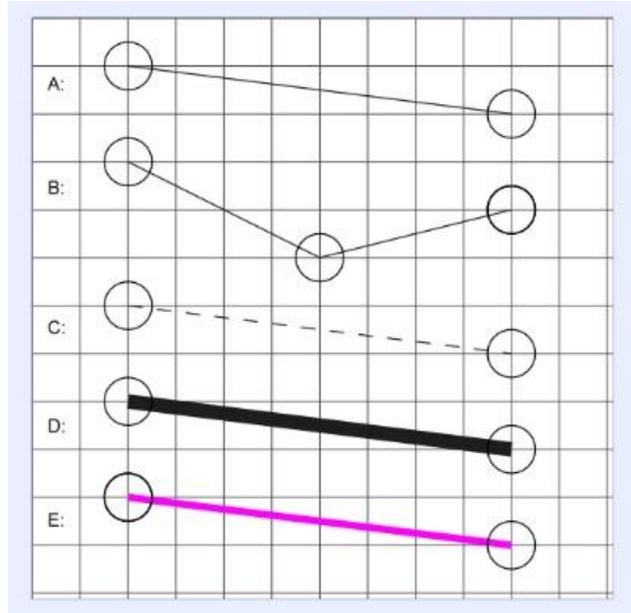

Figure 9 - Lines Drawn in AnyRail
When you add a line, circle or rectangle to the Work Area you will also notice that the line has a circle at each end (or intermediate point) [see *Figure 9*], and the circle or rectangle has a circle at their vertices. In the case of a circle, an imaginary box is drawn around it and it is this imaginary box that has the vertices. These vertices are known as “Control Points” and are used to adjust the position of that point on the object. This is useful for drawn lines in the instance where you need to align a line to the edge of a rectangle (for example). In the case of circles and rectangles, selecting one of their control points will result in a misshapen object. Should one of the vertices be accidentally selected and moved, <CTRL-Z> will undo the last task. Changing the size of the Control Point can make them easier to select.
Adding a user-defined line in *AnyRail* is very easy. The following section describes how to create a line, change the line to a dashed line, change line thickness or color. The various line styles are shown in Figure 9. As can be seen in this Figure, each line has a pair of Control Points – one at the starting point and one at the endpoint. In the case of the Multi-point line (B), there are three Control Points (in this example).
“General”, “Lines”, and “Objects”. The line width can be changed by replacing the value of “1” with another value under the “Lines” function. In Figure 9-D, the value was changed to “10”.
- E) **CHANGE LINE COLOR:** The default line color is **black**. To change the line color, <left-click> on the line to be changed and the “**TOOLS: LINES**” Tab will open. <left-click> on the “Line color” dropdown menu and select the new color to be used. The default color was changed to “Magenta” in Figure 9-E.